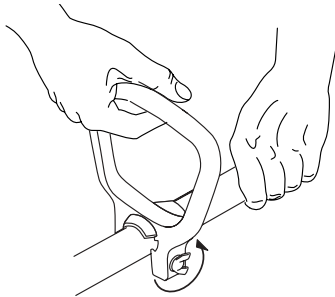

Fig. 2
5. While holding the unit in the operating position, arrange or rotate the D-handle to the location that provides you the best grip (Fig. 2).